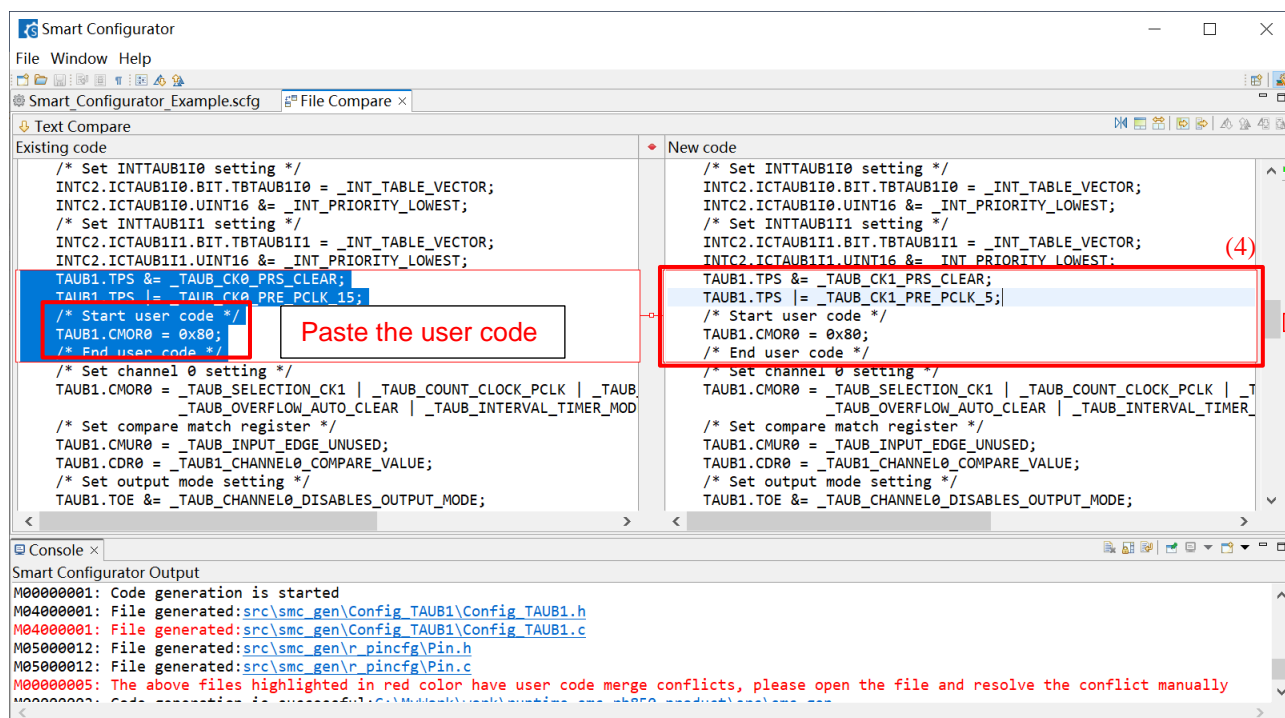

Figure 10-6 Code after deleting and saving
- 4) Save the modified code (Figure 10-6 Code after deleting and saving).